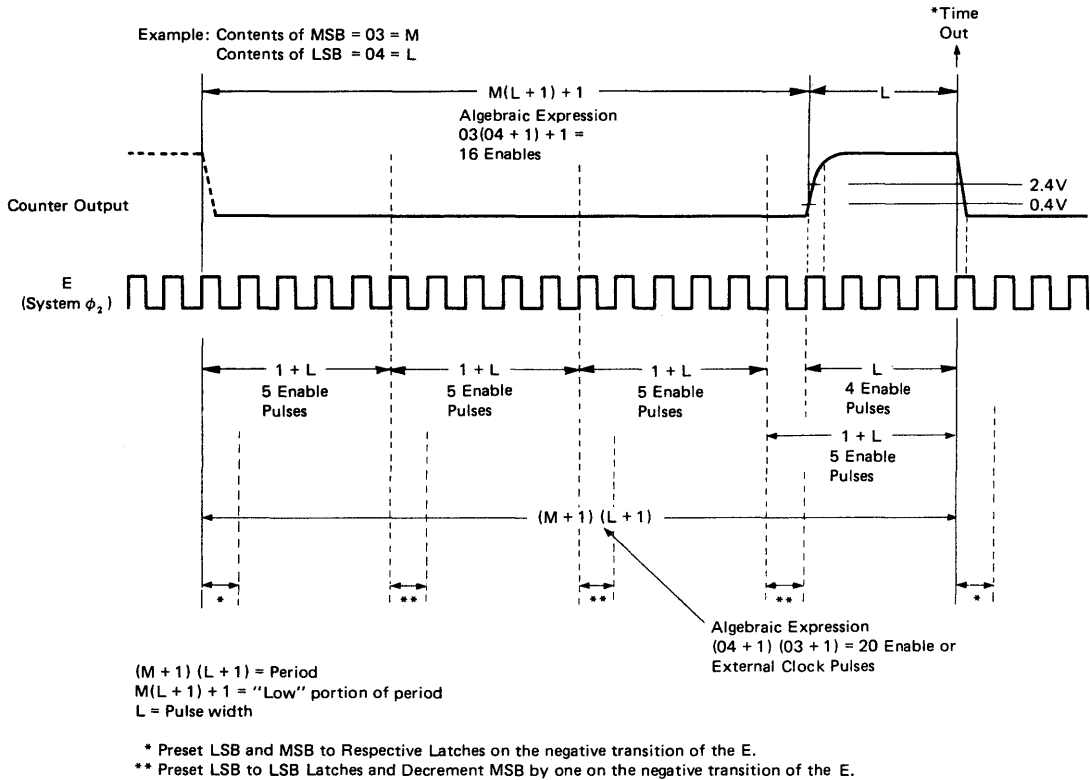

Figure 9 Timer Output Waveform Example
In the dual 8-bit mode ( $CRX2$  = "1") [Refer to the example in Fig. 9] the MSB decrements once for every full countdown of the LSB + 1. When the LSB = "0", the
MSB is unchanged; on the next clock pulse the LSB is reset to the count in the LSB Latches and the MSB is decremented by 1 (one). The output, if enabled, remains "Low" during and after initialization and will remain "Low" until the counter MSB is all "0"s. The output will go "High" at the beginning of the next clock pulse. The output remains "High" until both the LSB and MSB of the counter are all "0"s. At the beginning of the next clock pulse the defined Time Out (TO) will occur and the output will go "Low". In the normal 16-bit mode the period of the output of the example in Fig. 9 would span 1546 clock pulses as opposed to the 20 clock pulses using the Dual 8-bit mode.